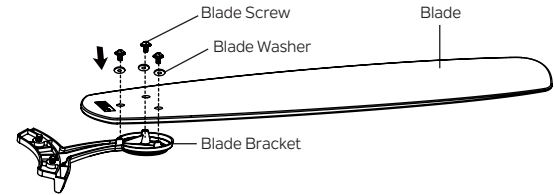

Fig. 18
**Step 1.** Attach blade to blade bracket using three blade screws and three washers found in the hardware pack as shown. Do not tighten blade screws until each screw has been started. Then, tighten each screw starting with the center screw. (Fig. 18)